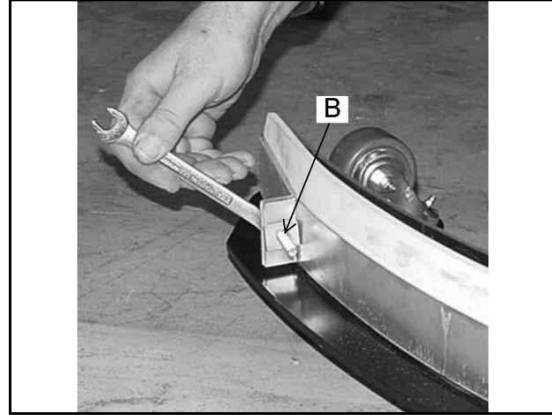

FIGURE 74
2. Fig. 74. Remove the squeegee tool and turn upside down to service the blades or the caster wheels. The squeegee blades are designed to rotate to use an unworn edge. Loosen the clamp bolts (B).